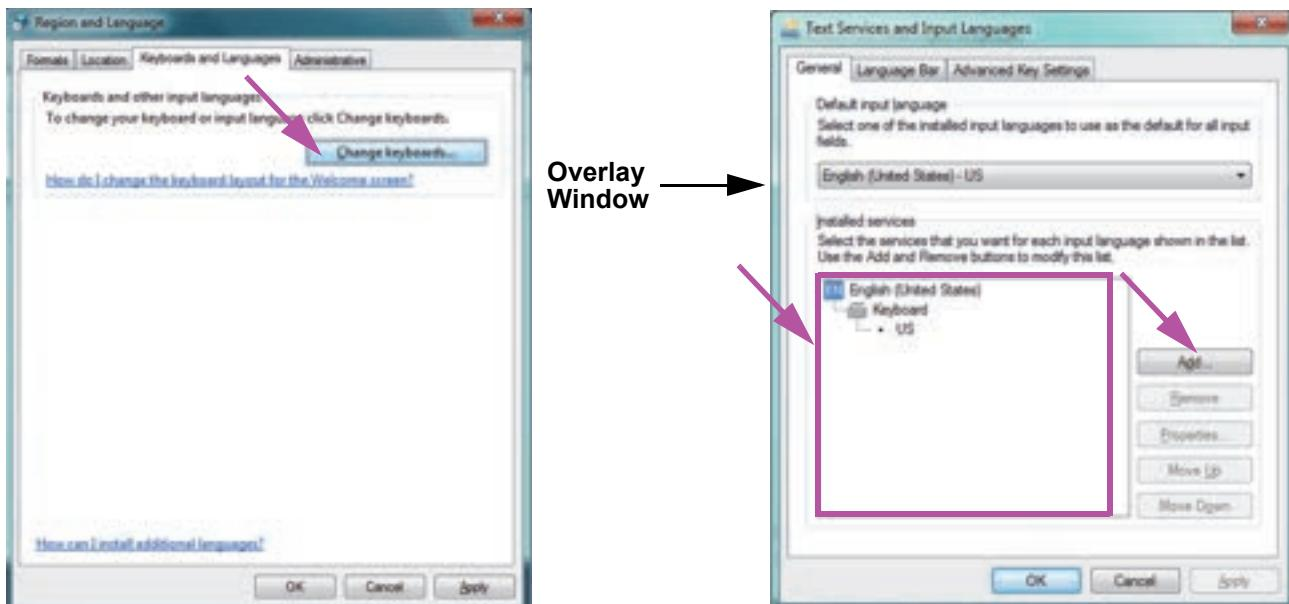

Figure C-8. Region and Language and Text Services and Input Languages Screens
- When the Keyboards and Languages tab appears, click the **Change keyboards...** button (see Figure C-8). An overlay window appears, listing Installed Services (the available language keyboards).
If the desired language does not exist in the Installed Services box, click the **Add** button (see Figure C-8).